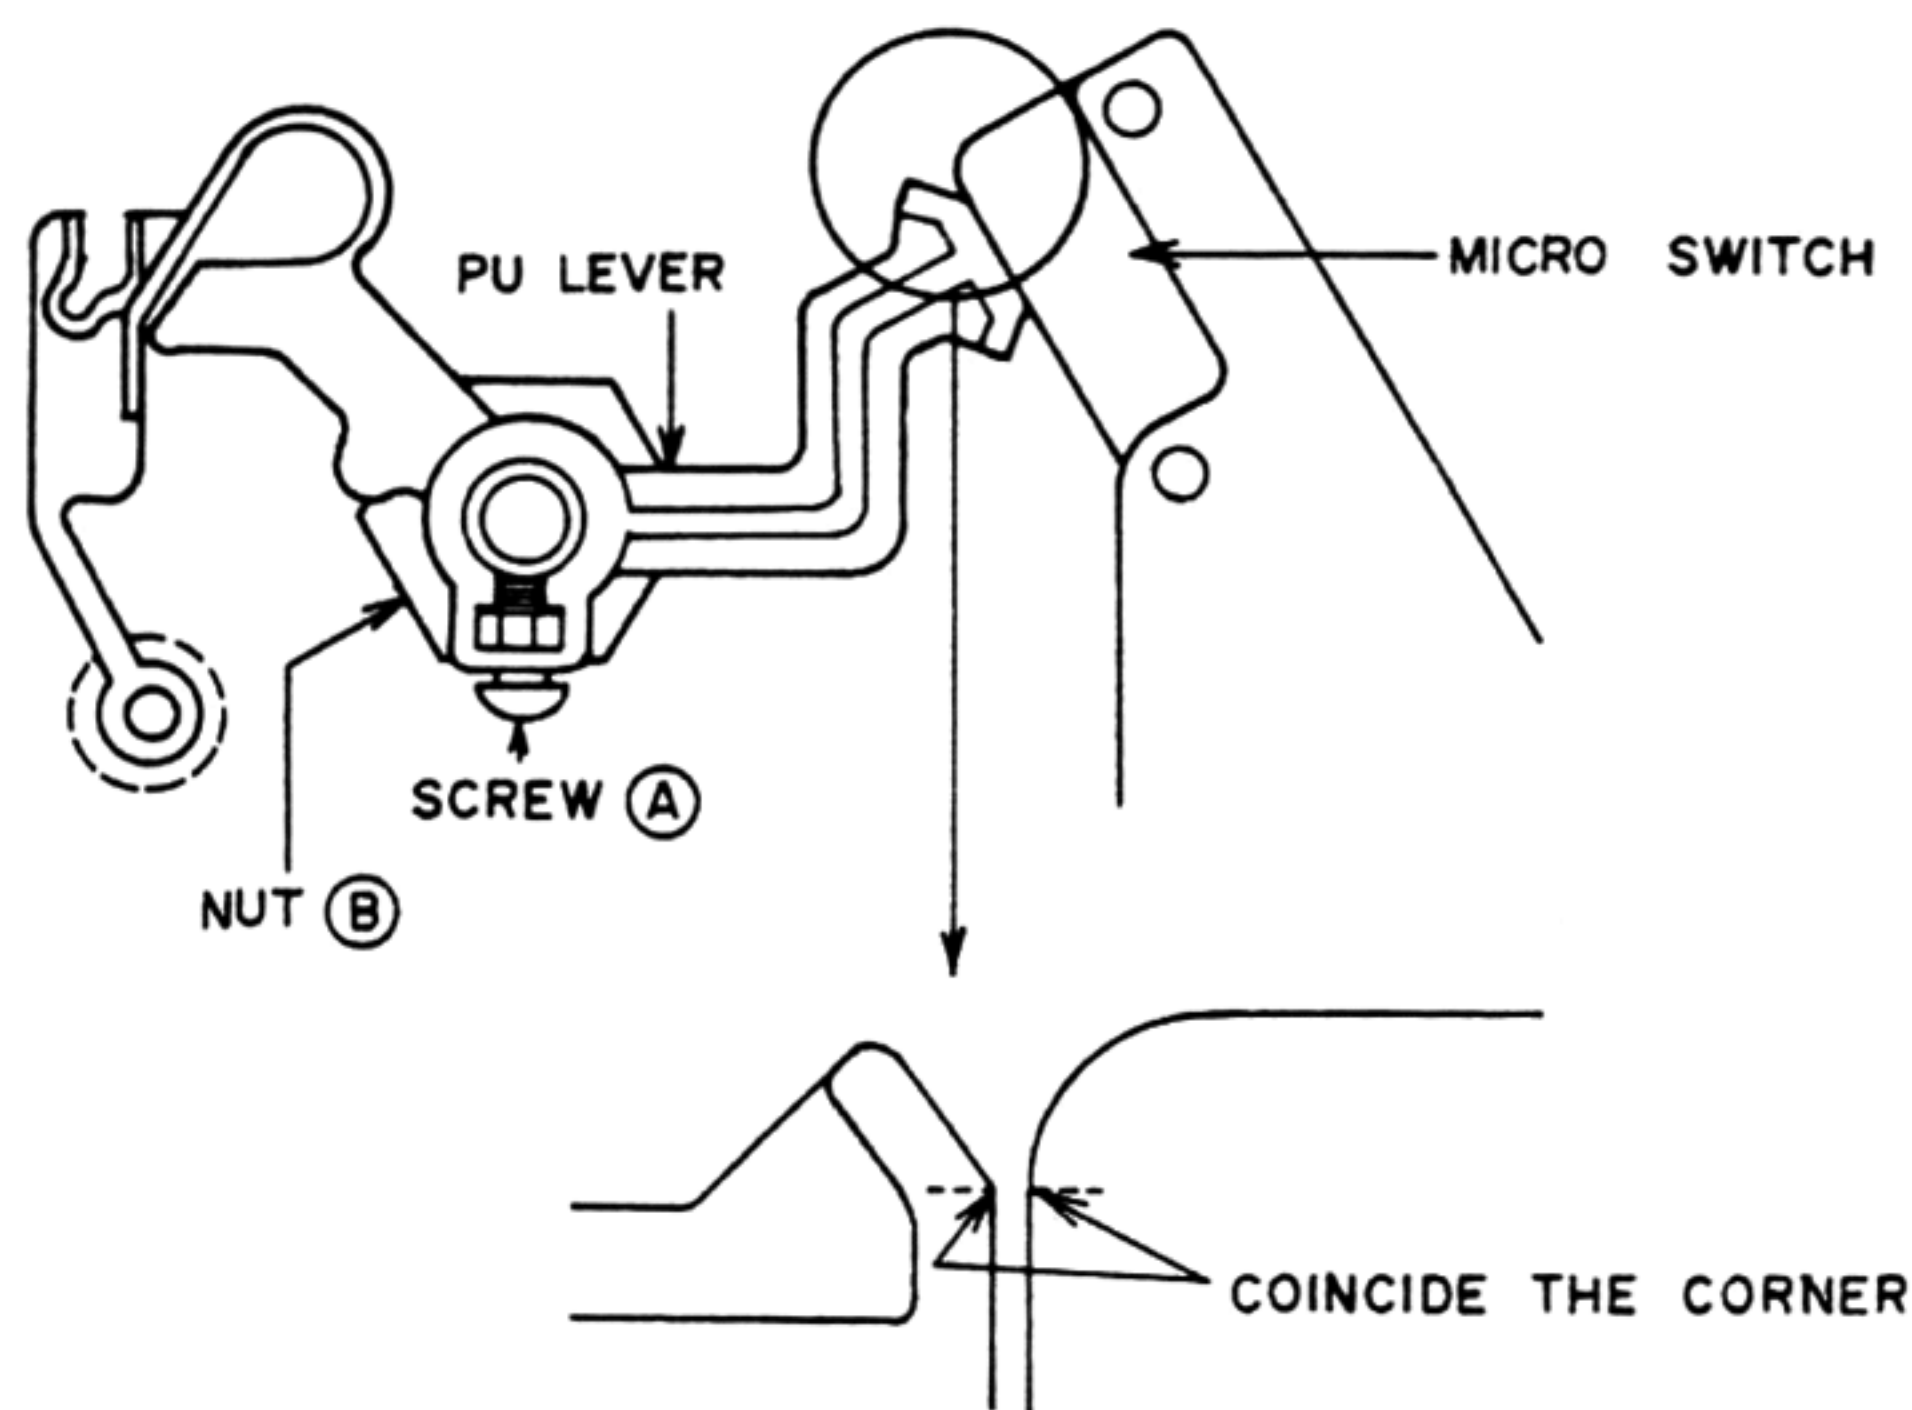

Fig. 7-4
ADJUSTMENT (Refer to Figs. 7-4 & 7-5)
- 2) Loosen the Screw (A), and confirm that the PU LEVER is installed all the way in the Nut (B).
- 3) Turn the PU LEVER so that the corner of those PU LEVER and Micro switch are coincide as shown in Fig. 7-4.
- 4) Tighten the Screw (A).